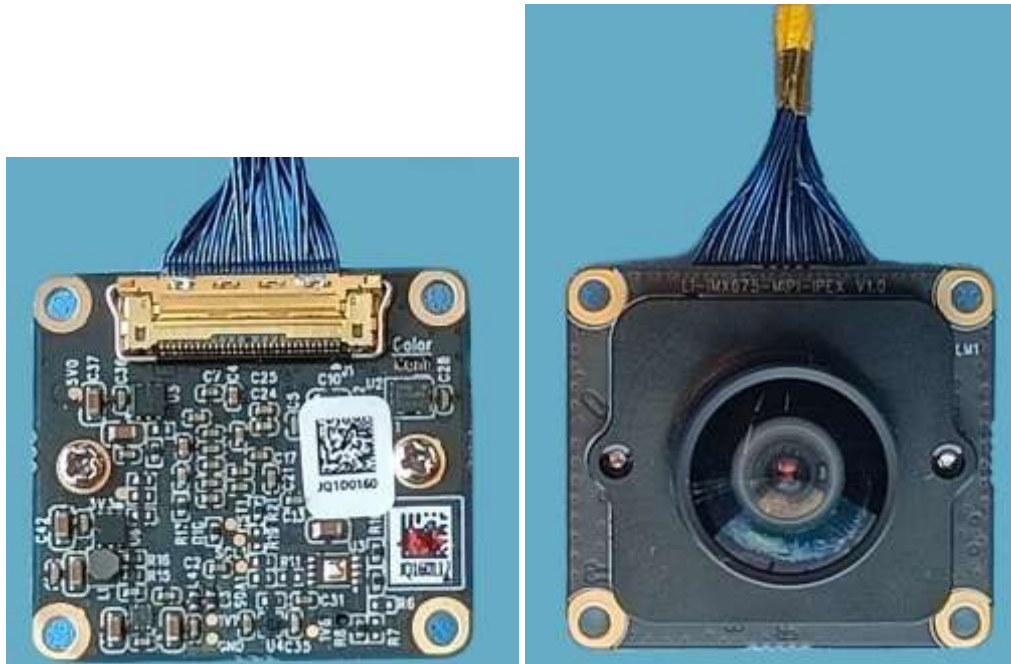

Figure 14. Sensor cable connection to the IMX675 camera sensor module
2. Connect the end of the camera sensor module cable to the IMX675 camera sensor module as shown in Figure 14.